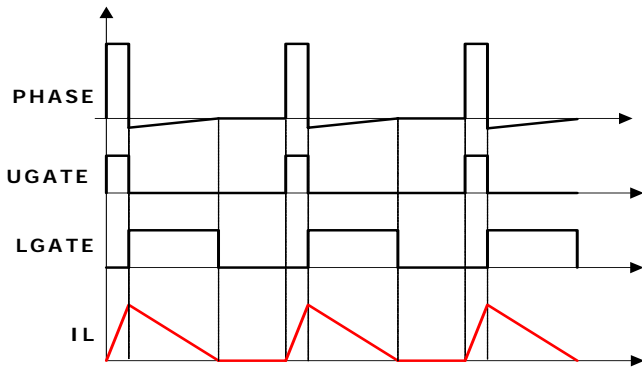

FIGURE 6. DIODE EMULATION
ISL62884C can operate in diode emulation (DE) mode to improve light load efficiency. In DE mode, the low-side MOSFET conducts when the current is flowing from source to drain and doesn't not allow reverse current, emulating a diode. As shown in Figure 6, when LGATE is on, the low-side MOSFET carries current, creating negative voltage on the phase node due to the voltage drop across the ON-resistance. The ISL62884C monitors the current through monitoring the phase node voltage. It turns off LGATE when the phase node voltage reaches zero to prevent the inductor current from reversing the direction and creating unnecessary power loss.